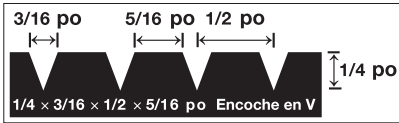

Figure 2
- Truelle de 6 x 13 x 5 mm (1/4 x 1/2 x 3/16 po) (Figure 2)